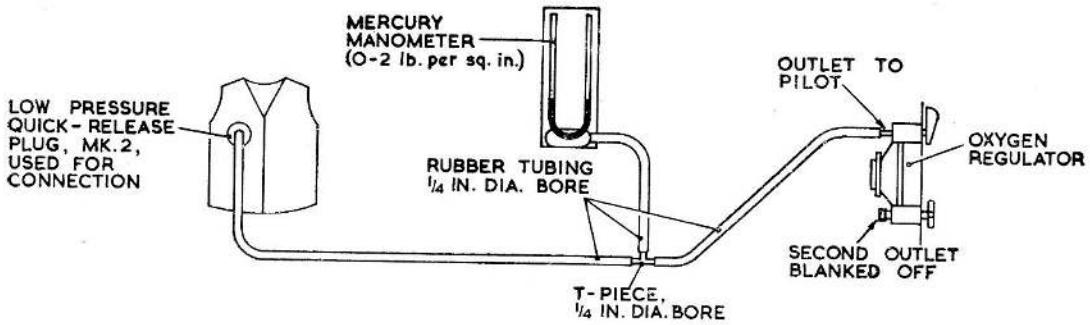

Fig. 17. Pressure test : waistcoat
64. The equipment required is shown in fig. 17. With the sliding fastener closed, the waistcoat should be inflated with oxygen or air and subjected to a pressure of 34 in. of water for about 30 seconds. There must be no signs of failure or leakage at the seams or fastener. If one of the reeds has come unstuck, the waistcoat is unserviceable.